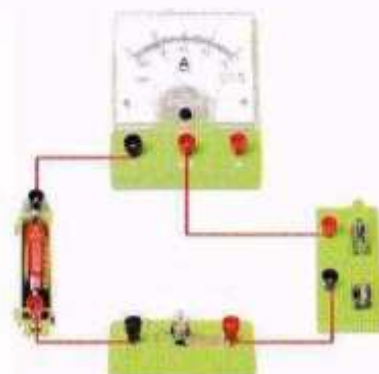

图3-1
1. Connect the circuit as shown in Figure 3-1 to measure the current of a light bulb and learn the ammeter readings.